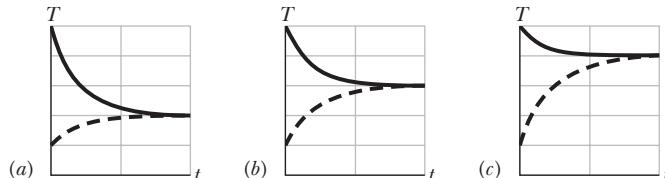

Figure 18-29 Question 11.
- 11** A hot object is dropped into a thermally insulated container of water, and the object and water are then allowed to come to thermal equilibrium. The experiment is repeated twice, with different hot objects. All three objects have the same mass and initial temperature, and the mass and initial temperature of the water are the same in the three experiments. For each of the experiments, Fig. 18-29 gives graphs of the temperatures  $T$  of the object and the water versus time  $t$ . Rank the graphs according to the specific heats of the objects, greatest first.